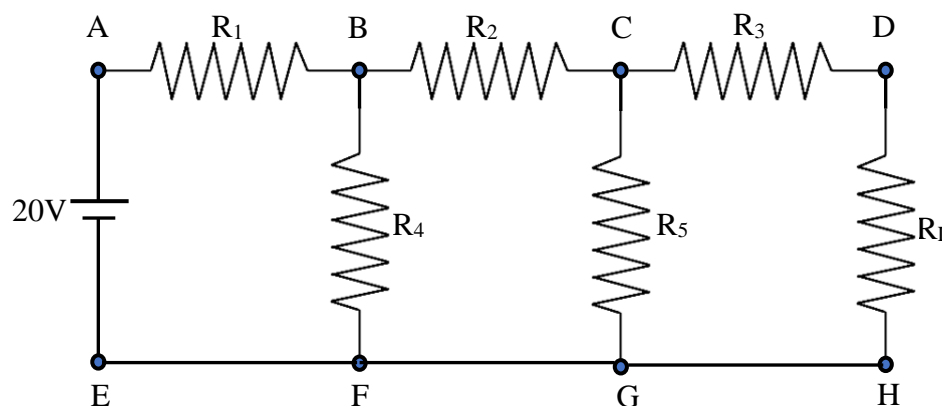

Figure 8.1: Thevenin's Theorem
1. Connect the circuit on the bread board as shown in the figure 8.1.